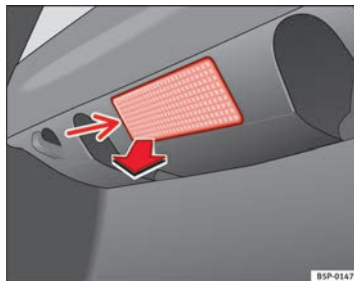

Fig. 196 Luggage compartment light
- Remove the bulb by pressing on the inside edge of this -arrow- using the flat side of a screwdriver ⇒ fig. 196. ►